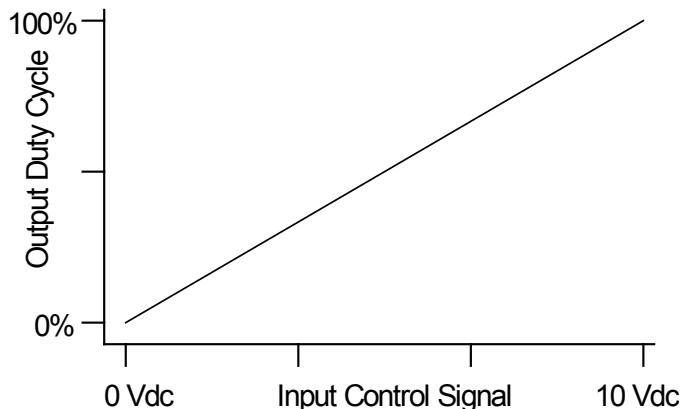

Figure 1: Default Analog 0-10 Vdc Control Curve
- ECM-Motor speed is determined by the 0 to 10 Vdc control signal as shown in Figure 1 below